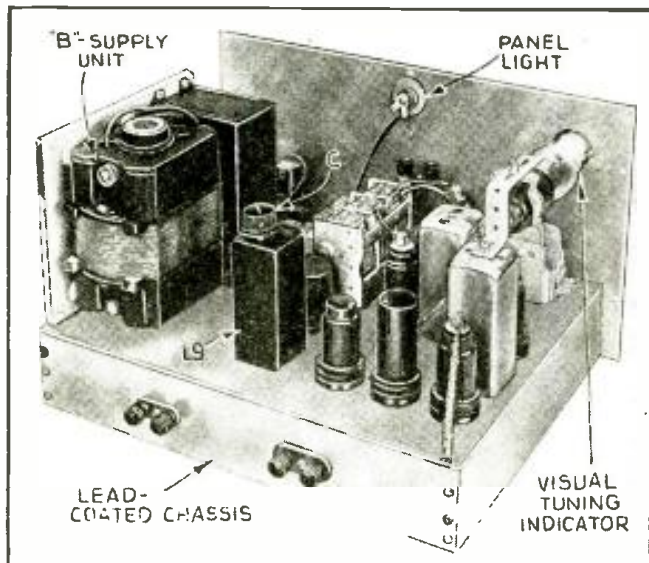

Fig. 3 Rear view showing placement of parts and power pack.
The graphical construction Fig. 3, a and b, shows how the average D.C. value of μE_g and E_p is obtained. The readings on the plate current meter therefore depend on (1) plate resistance, (2) amplification factor, and (3) transconductance.